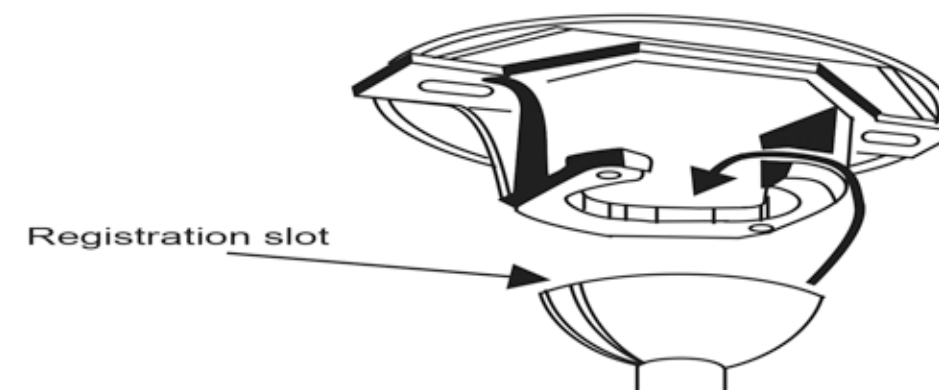

Fig.4
Step 9. Rotate the entire assembly until the "Check Tab" has dropped into the "Registration Slot" and seats firmly. (Fig. 4)